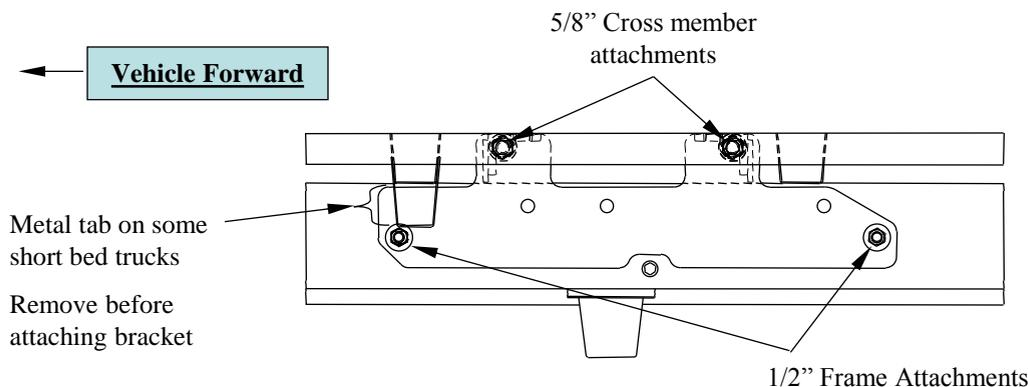

Figure 3
- On some 6' beds, there is a metal tab attached to the bottom of the forward bed sill outside the frame (see Figure 3). These tabs are a feature that the manufacturer used to locate the bed on the frame at the factory and have no useful purpose afterward. Remove these tabs so that the frame brackets can be installed.